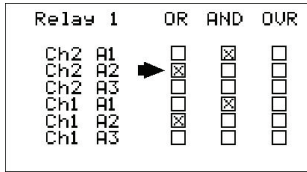

Figure 2-10. Set Relay Logic
- The Set Relay Logic menu shown below in Figure 2-10 offers additional “voting” flexibility by controlling the channel alarm combinations that will trip this common alarm relay. “OVR” on the menu’s right side stands for override and means ANY of the selected alarms will activate the relay. The “OR” / “AND” columns work together based upon the following logic equation: